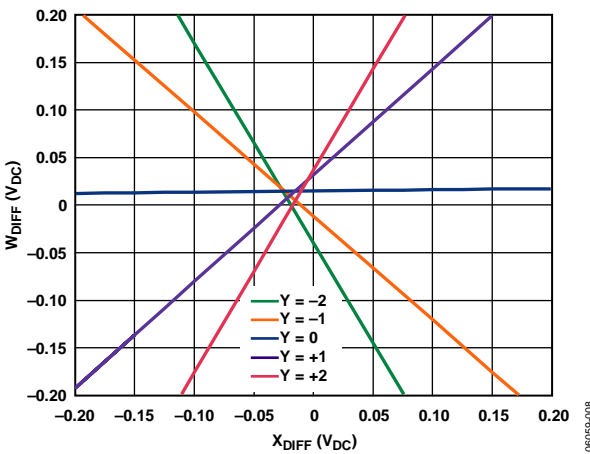

Figure 4. Magnified DC Cross Plots
The dc offset of the ADL5391 is approximately 20 mV but changes over temperature and has variation from part to part (see Figure 4). It is generally not of concern unless the ADL5391 is operated down to dc (close to the point $X = 0$ V or $Y = 0$ V), where 0 V is expected on the output ($W = 0$ V). For example, when the ADL5391 is used as a VGA and a large amount of attenuation is needed, the maximum attenuation is determined by the input dc offset.
The dc component of the output is related to the square of both the offset (OFST) and the signal input amplitude (E). The offset can be found in Figure 4 and is approximately 20 mV. The